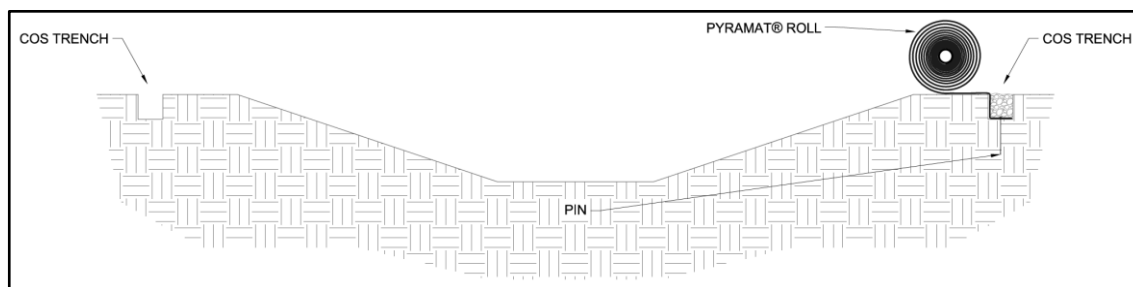

Figure 9: Top of Bank (COS) Trench Placement
7. Secure PYRAMAT with pins in the COS trench (Figure 9). Suggested placement of pins for the COS trench is along the bottom of the trench on 12 in (300 mm) centers. Pins should also be installed on panel edge overlaps in the COS trench.
8. Backfill and compact the COS trench in the location of the first PYRAMAT panel only (Figure 9).